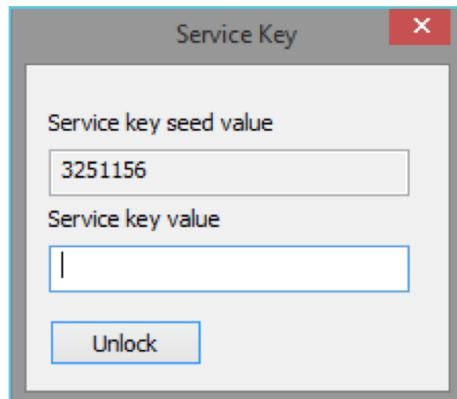

Figure 50.
2. **Service Key:** is only for the DMT engineers during a service (figure 50).